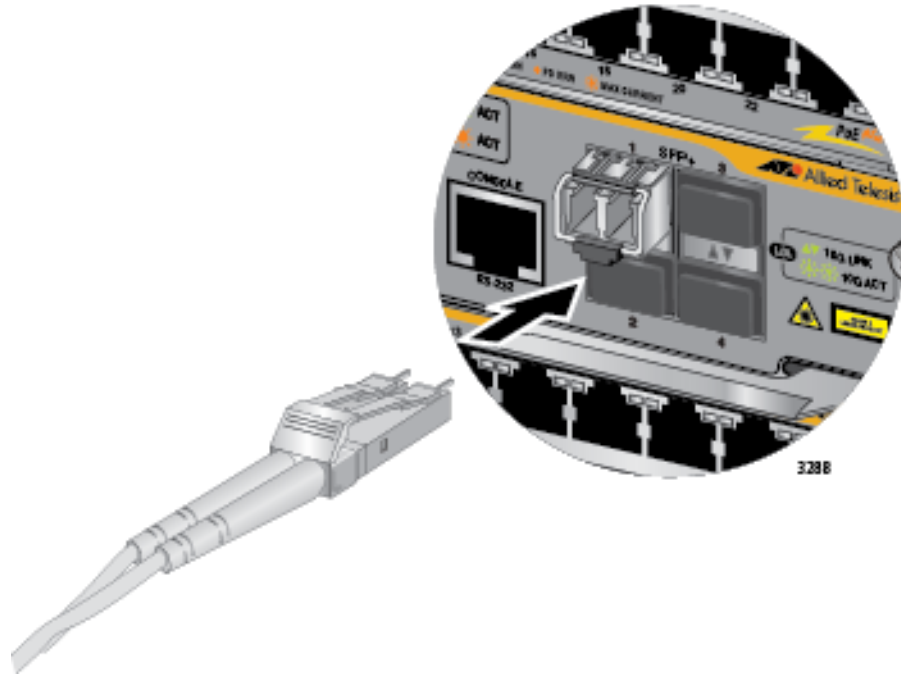

Figure 103. Attaching a Fiber Optic Cable to an SFP+ Transceiver in the AT-SBx81CFC960 Controller Fabric Card
6. Connect the fiber optic cable to the port on the transceiver, as shown in Figure 103 on page 168. The connector should snap into the port.